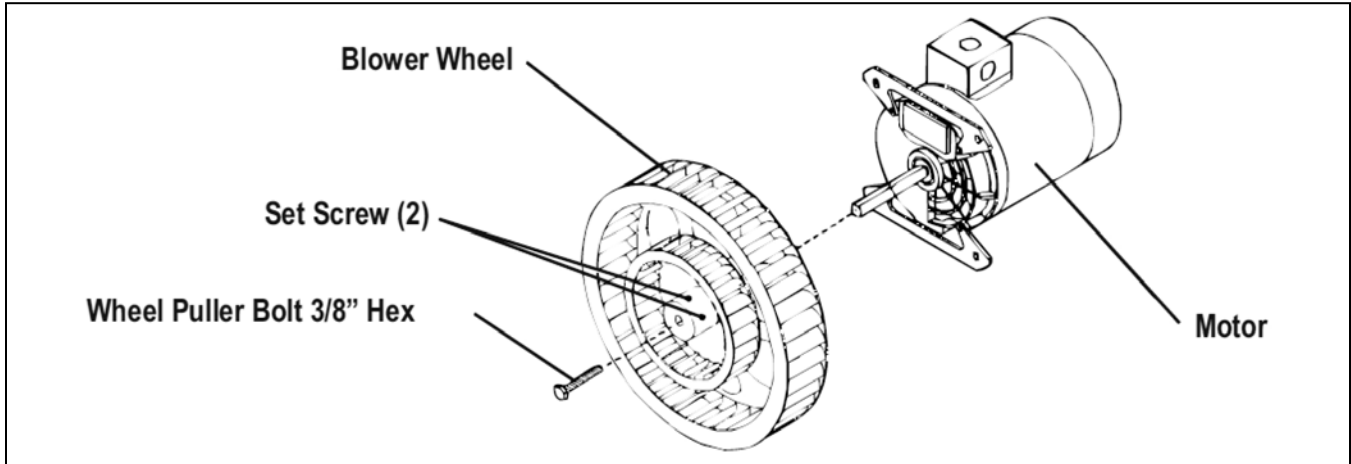

Figure 1: Cleaning The Blower Wheel
To clean the blower wheel, remove and immerse in ammoniated water for 20 to 25 minutes. Then, scrub it off with a small, stiff brush. The same procedure can be followed for wire racks and rack supports. To remove the blower wheel, loosen the set screws (2) on the hub of the blower wheel and tighten the 3/8" wheel puller bolt (supplied) in center of hub (See Fig. 1).